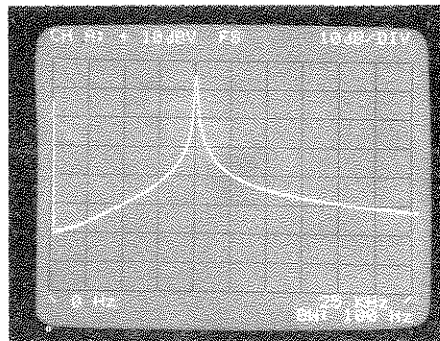

Figure 3-9. Sine Wave Spectrum Using the UNIFORM Passband.
- g. Set the UNIFORM passband button to ON. The spectrum may appear as in Figure 3-9.